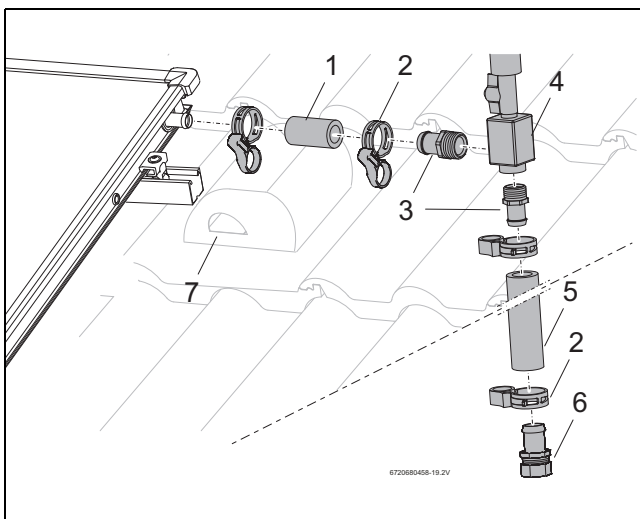

Fig. 52 Connecting the purging device on the roof top
- ▶ Fix the solar hose (55 mm, Fig. 52, [1]) to the flow connection of the collector array and fix to hose clip.
- ▶ Tighten the R $\frac{3}{4}$ hose terminals with the O-rings (Fig. 52, [3]) in the air chamber (Fig. 52, [4]).
- ▶ Insert the hose ends (Fig. 52, [3]) as far as they can go into the solar hose (Fig. 52, [1] and [5]) and secure with hose clip (Fig. 52, [2]).
- ▶ Push the double ended screw of the locking ring into the solar hose (Fig. 52, [6]) until it touches the hose clip.
- ▶ Route the solar hose, together with the solar probe, along the ventilated tile (Fig. 52, [7]) and along the rooftop insulation.
- ▶ Connect the collector pipe to the hose terminal with the locking ring threaded connection (18 mm) (Fig. 52, [6]).